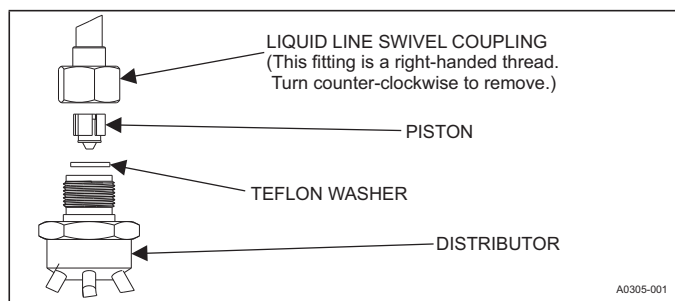

FIGURE 10: Piston Installation
6. Install required size piston into the distributor. Refer to supplied Tabular Data Sheet for specific piston size and indoor coil match up. See Figure 10.
7. Verify that the Teflon washer is still in place in the distributor opening. See Figure 10.